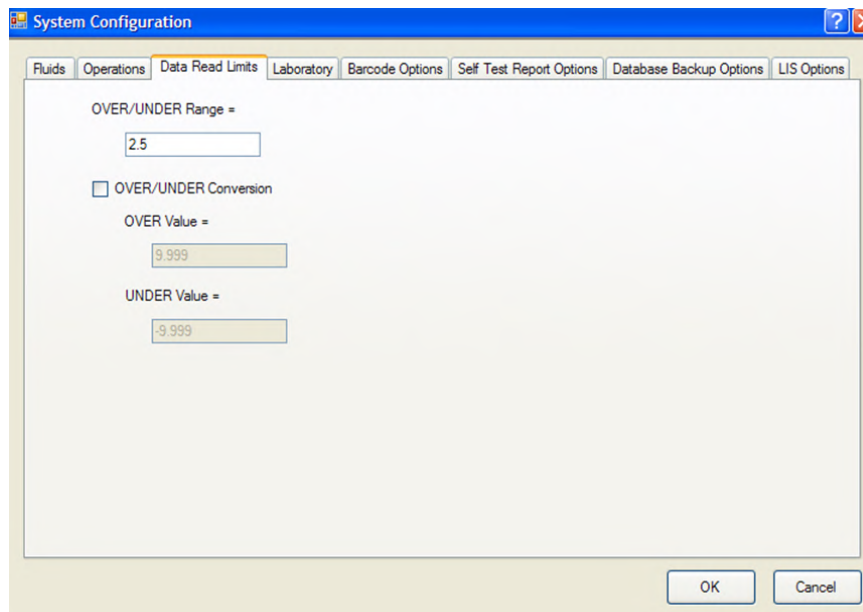

Figure 45: System Configuration – Data Read Limits Tab
- 1. Select **System Configuration** on the tools menu to display the *System Configuration* window (Figure 45).